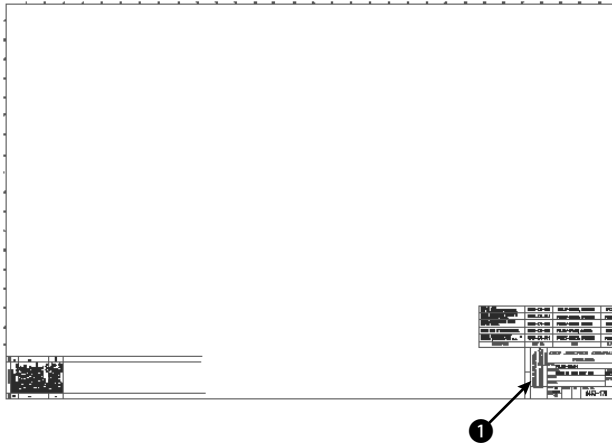

**Figure 18-6:** A title block can be saved as a file and inserted into any other drawing.
2. Save the file as ab18-02.dwg in your AutoCAD Bible folder. This is a large title block, as shown in Figure 18-6. OSNAP should be on. Set a running object snap for endpoint.
6. Use Zoom Window to zoom in on the text at the bottom-right corner of the title block. At the *Select objects:* prompt, select all of the 90°-rotated text at ❶ in Figure 18-6. Press Enter to end selection.